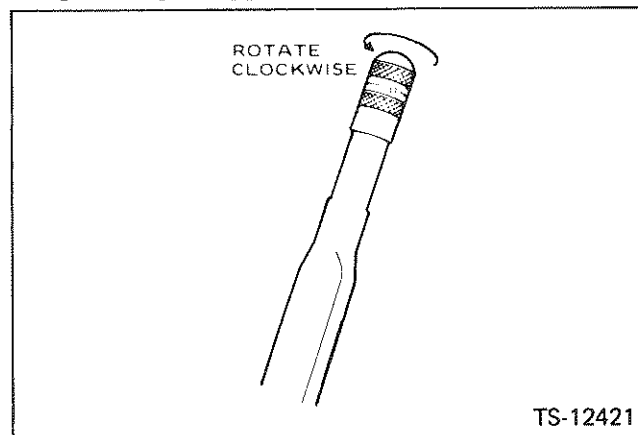

Fig. 13-4 Parking Brake
1. With lever in release position turn acorn on end of handle clockwise as shown in Fig. 13-4.